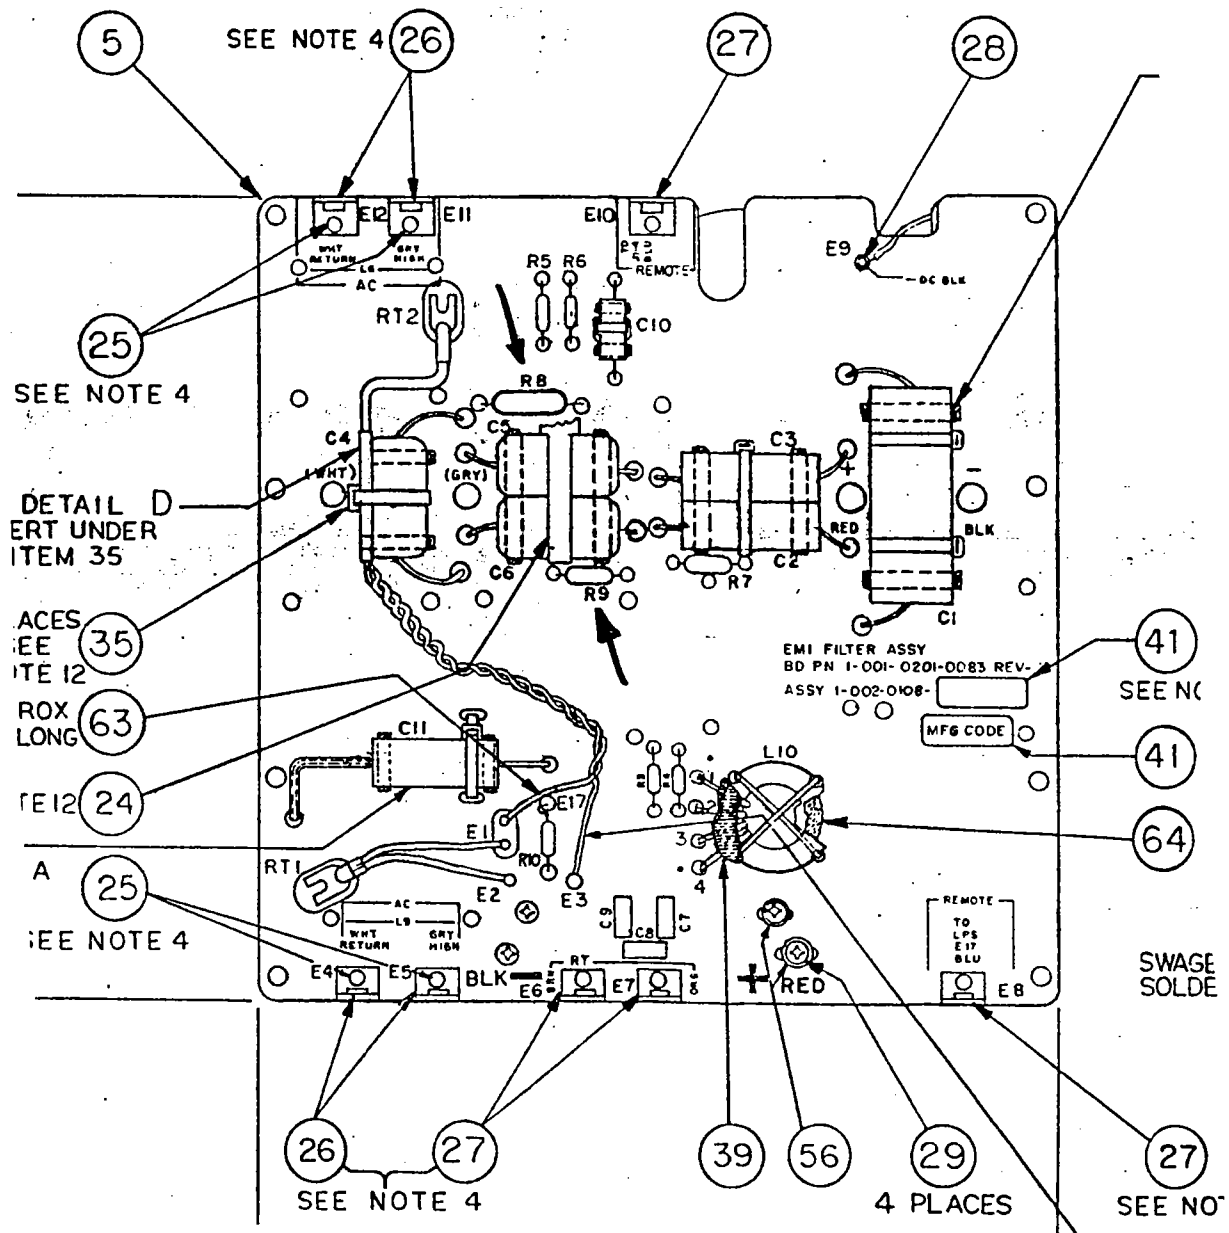

FIGURE 3
12. Locate resistors R8 and R9 on PCB (see figure 3).
17. Locate resistor R9 (see figure 3).
- NOTE: Apply loctite to screws item (40) position "C" two places; and item (75) position "D" five places during reassembly.